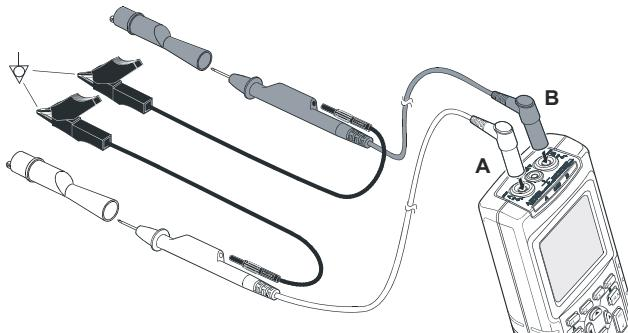

Figure 4-1. Fieldbus Measurement Input Connections
⑥   Select the appropriate input A and input B test leads or probe type.
⑦ Connect the inputs as indicated in figure 4-1.